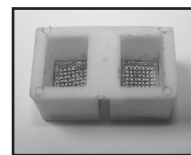

Figure 4
7. At this point the filter cartridge in the pressure cylinder base can be removed with pliers and cleaned or replaced (fig 4).